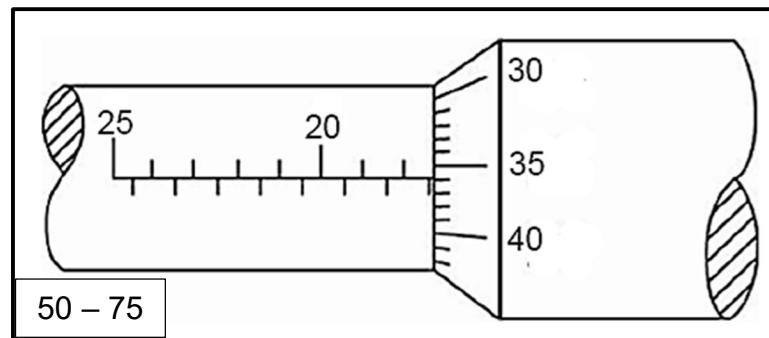

FIGURE 6.10
6.10 Determine the depth micrometer reading shown in FIGURE 6.10 below.